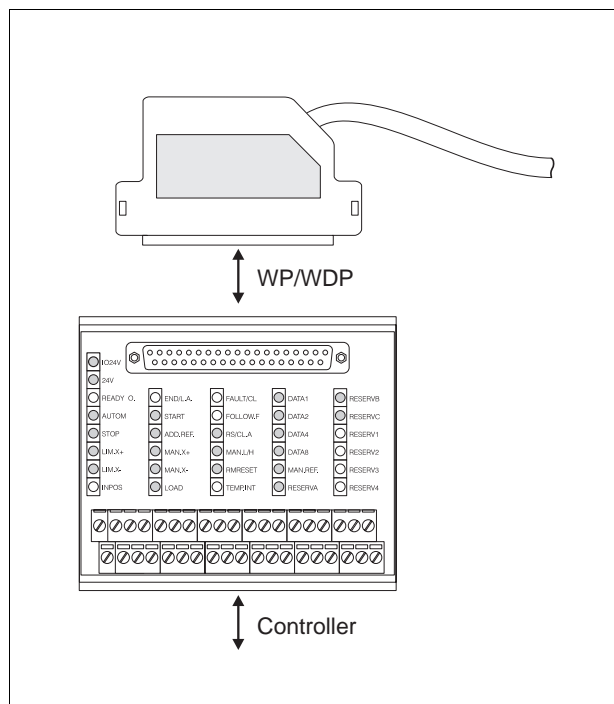

Fig. 6-10 Starting the D 731 terminal adapter
2. Connect the D 731 terminal adapter cable to the WP/WDP unit, see fig. 6-10.